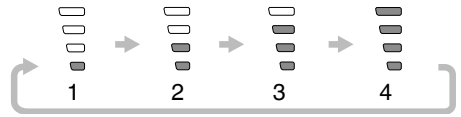

Fig. 21
- (1) High / Low mode selector switch (**Fig. 21**)